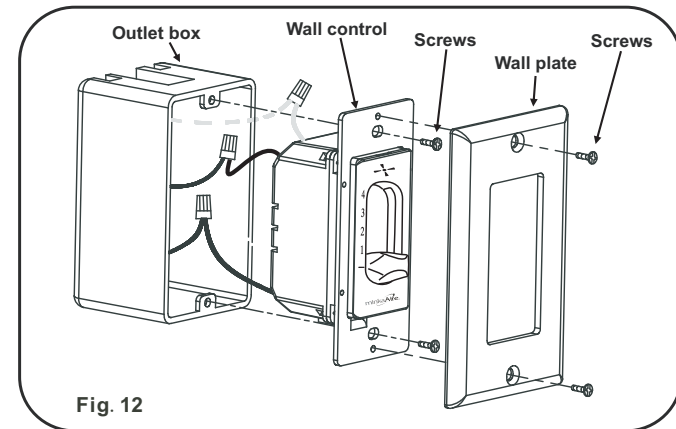

Fig. 12
1. (Fig. 12) Carefully tuck the wire connections inside the outlet box. Secure the wall control with the two screws provided.